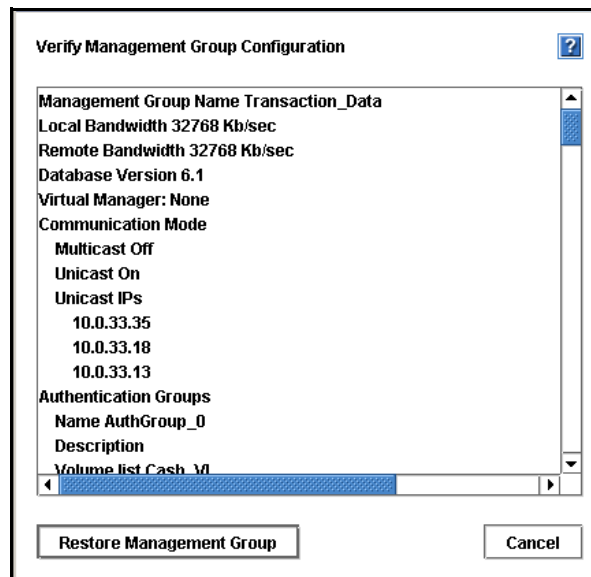

Figure 148. Verifying the Management Group Configuration
4. Select the file and click Restore Management Group. The Verify Management Group Configuration window opens, shown in Figure 148.